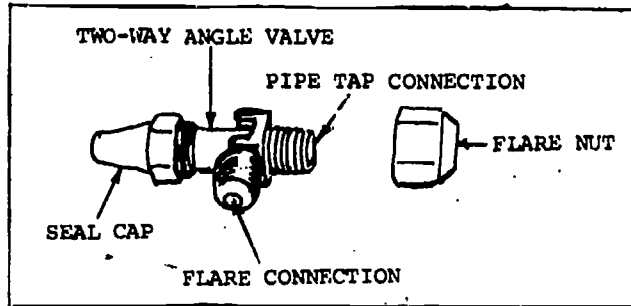

Fig 2-20. Two-way valve.
- (1) Two-way valve (fig 2-20). A two-way valve is a simple open-close valve with a packing gland around the stem to prevent leakage. This valve has many uses in an air-conditioning system. It can be used as a receiver or condenser service valve, a charging or purging valve, a throttling valve, or it can be fitted with a tube and used to draw off liquid from the receiver.